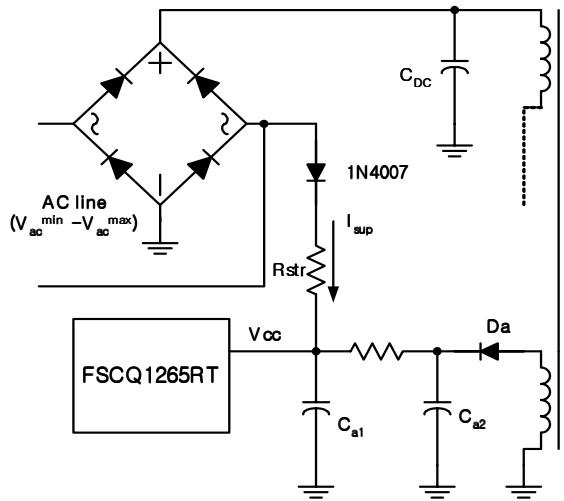
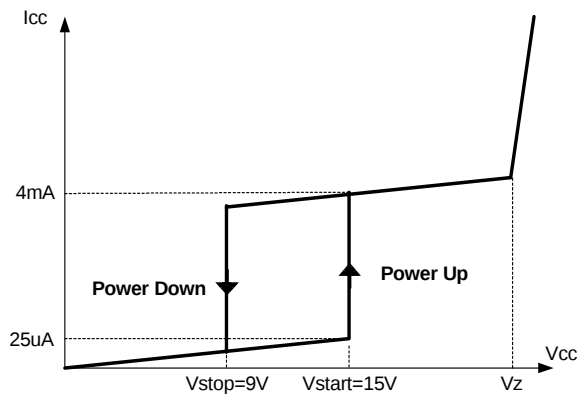

Figure 4. Startup circuit
Figure 5. Relation between operating supply current and Vcc voltage
1. Startup : Figure 4 shows the typical startup circuit and transformer auxiliary winding for FSCQ1265RT application. Before FSCQ1265RT begins switching, FSCQ1265RT consumes only startup current (typically 25uA) and the current supplied from the AC line charges the external capacitor (Ca1) that is connected to the Vcc pin. When Vcc reaches start voltage of 15V (V_{START}), FSCQ1265RT begins switching, and the current consumed by FSCQ1265RT increases to 4mA. Then, FSCQ1265RT continues its normal switching operation and the power required for this device is supplied from the transformer auxiliary winding, unless Vcc drops below the stop voltage of 9V (V_{STOP}). To guarantee the stable operation of the control IC, Vcc has under voltage lockout (UVLO) with 6V hysteresis. Figure 5 shows the relation between the FSCQ1265RT operating supply current and the supply voltage (Vcc).